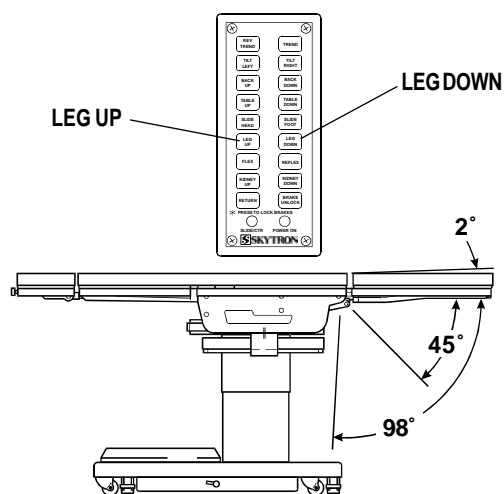

Figure 2-9. Leg Section Positioning
g. Leg Section. To lower the leg section, press the LEG-DOWN button (figure 2-9). The leg section will go down to 98° below horizontal. To raise the leg section, press the LEG-UP button. The leg section will go up to 2° above horizontal.